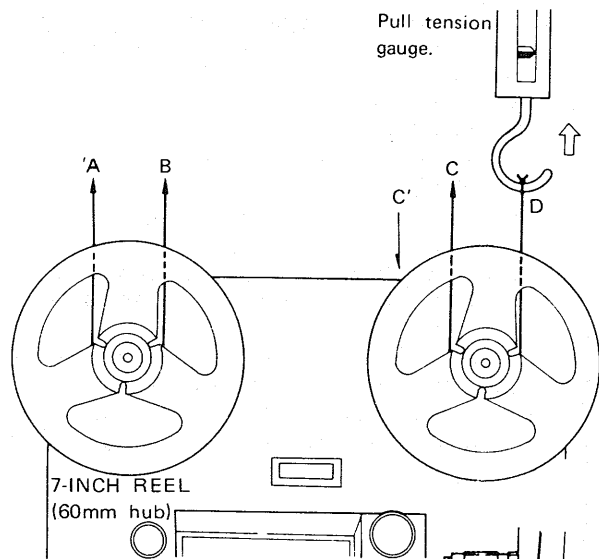

Fig. 20
● Back Tension Torque at Playback (Figs. 20, 21)
2. Set tape deck in vertical position in playback mode at 7-1/2 ips (19cm/s). Measure back tension of supply reel base by pulling tension gauge in B direction as shown in Fig. 20.
● Take-up Torque at Playback (Figs. 20, 21)
2. Set tape deck in vertical position and in playback mode at 7-1/2 ips (19cm/s). Measure take-up torque of take-up reel base (While moving tension gauge slowly in C' direction as shown in Fig.20, read value of the gauge.)
● Back Tension Torque at Fast Forward (Figs. 20,21)
1. Set tape deck in vertical position in fast forward mode. Measure back tension of supply reel base (pull in B direction as shown in Fig. 20).